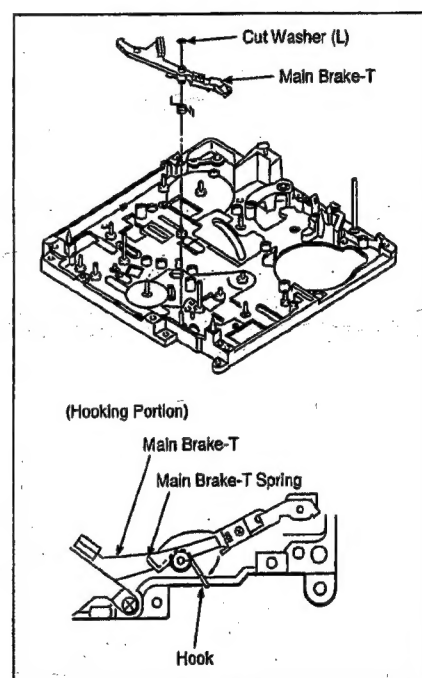

Fig. M19
- Fig. M19 Remove the Main Brake S and Main Brake-S Spring.